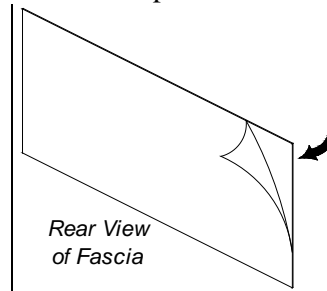

Figure 1 - Vista 2 Fascia
- a) Peel the backing paper from the top left corner of the fascia (Figure 1).